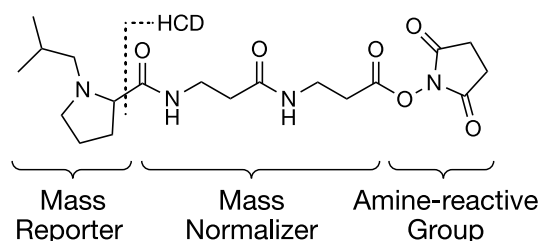

Figure 1 TMTpro reagent structure including functional regions and HCD fragmentation site
The Thermo Scientific™ TMTpro Mass Tag Labeling Reagents and Kits enable multiplex relative quantitation by mass spectrometry (MS). Each TMTpro reagent within the multiplex set has the same nominal mass (isobaric) and chemical structure composed of an amine-reactive NHS-ester group, a mass normalizer group, and a mass reporter (see Figure 1). The reagent set can be used to label up to 35 different peptide samples prepared from cells, biological fluids, or tissues. For each sample, a unique reporter ion (126–135 *m/z*) generated in the low mass region of the MS/MS spectra upon peptide fragmentation is used to measure relative protein expression levels (see “Data acquisition methods” on page 3).